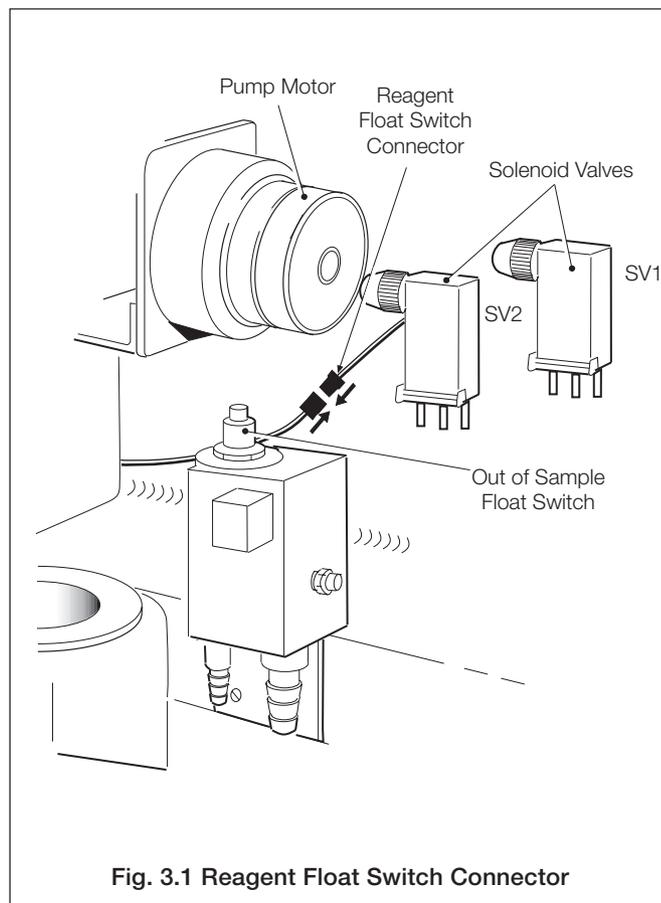

Fig. 3.1 Reagent Float Switch Connector
- Connect the reagent float switch to the plug (Fig. 3.1) routing the lead through the far left hand grommated hole in the bottom of the enclosure.